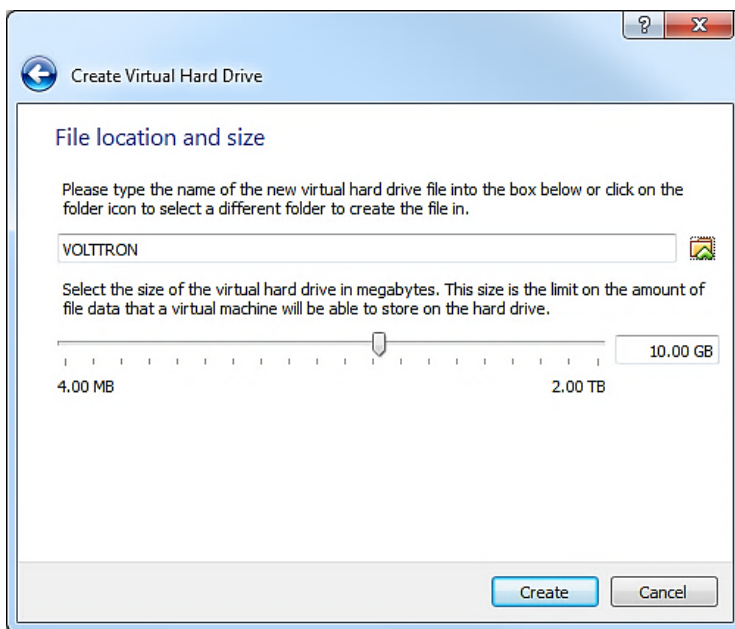

Figure 9: Creating Virtual Hard Drive (continued)
7. Choose the file size for the VM virtual hard drive. Keep in mind that Linux Mint 17 is close to 4 GB just for the operating system (Figure 9). Choose Create.